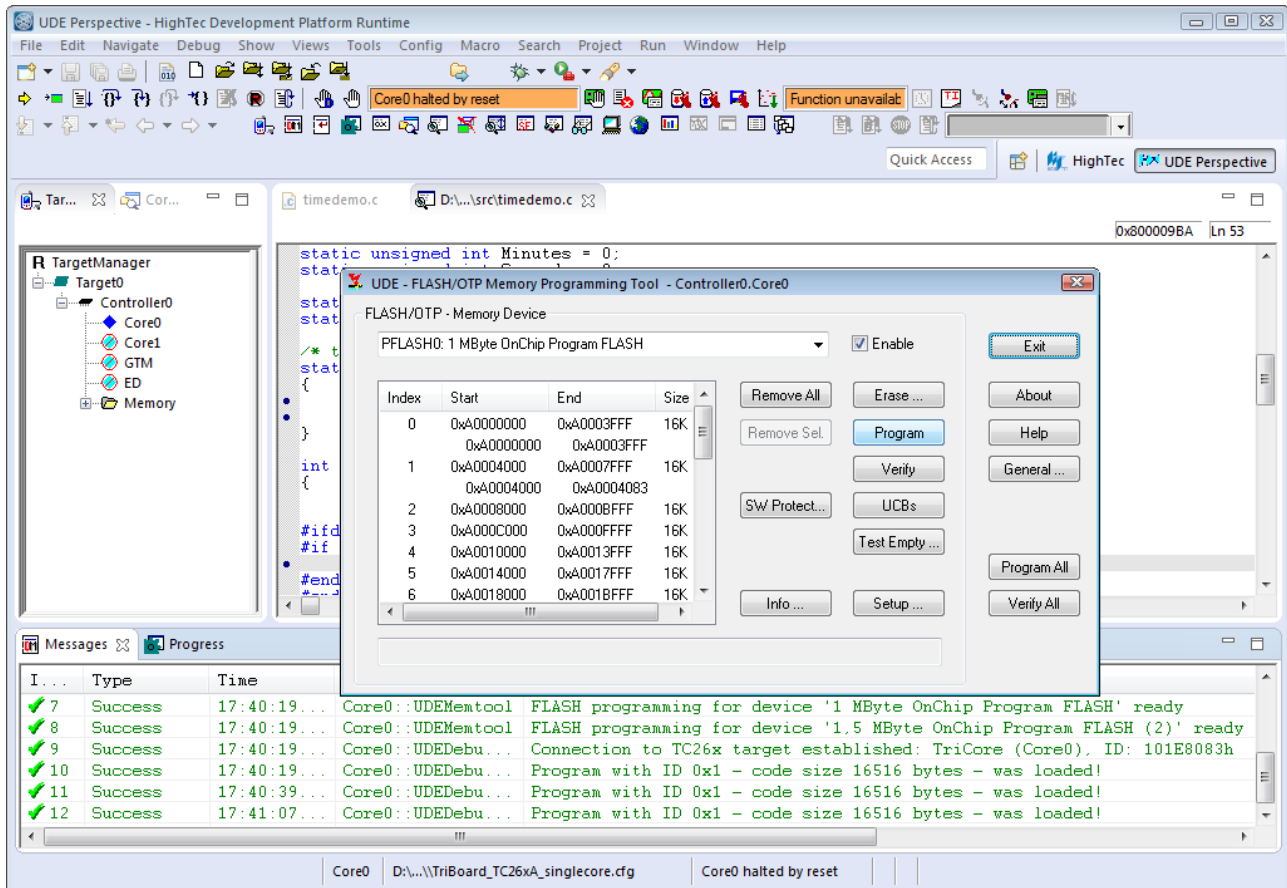

Figure 33 UDE Memory Programming Tool
4. A new debug configuration **TimeDemo_TriBoard-TC275A** is created. All input fields are pre-filled with appropriate values (Figure 33).
6. If you built an **iROM** version of your application, the **UDE Memory Programming Tool** will appear after launching the **UDE perspective** (Figure 33).